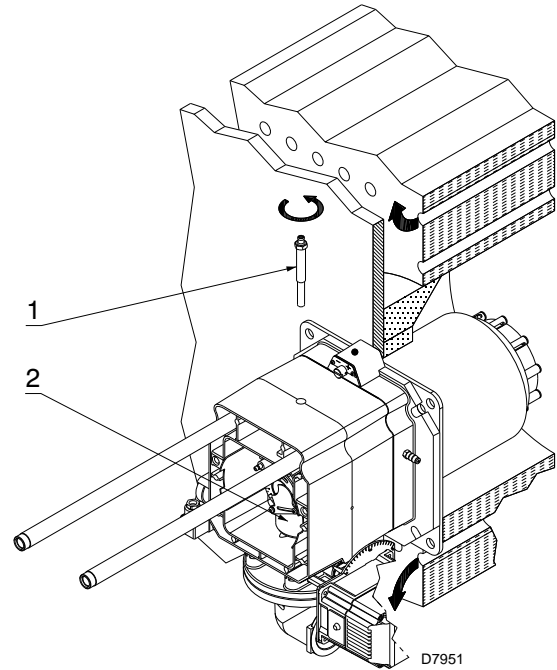

Fig. 13
- remove the screw 1)(Fig. 13)
- extract the inner part 2)(Fig. 13) of the head, and adjust them.
At this point of the installation, the combustion head is fixed to the boiler as shown in Fig. 13. It is therefore especially easy to adjust, and this adjustment depends only on the maximum output of the burner.